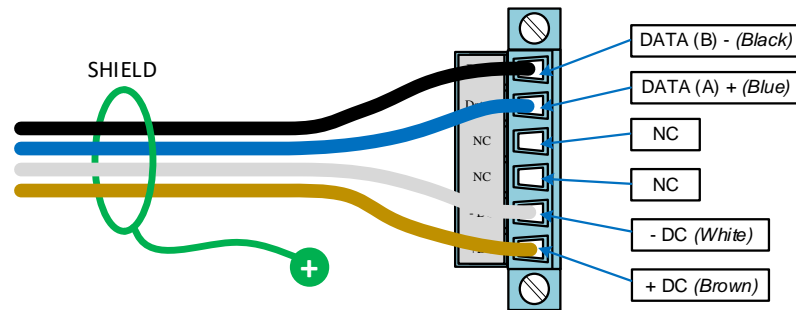

Figure 12: HY-OPTIMA 5000 Hydrogen Sensor Connector with Wires
In the example shown in *Figure 12: HY-OPTIMA 5000 Hydrogen Sensor Connector with Wires*, the Black wire is connected to DATA (B) -, the Blue wire is connected to DATA (A) +, the White wire is connected to - DC, and the Brown wire is connected to + DC.